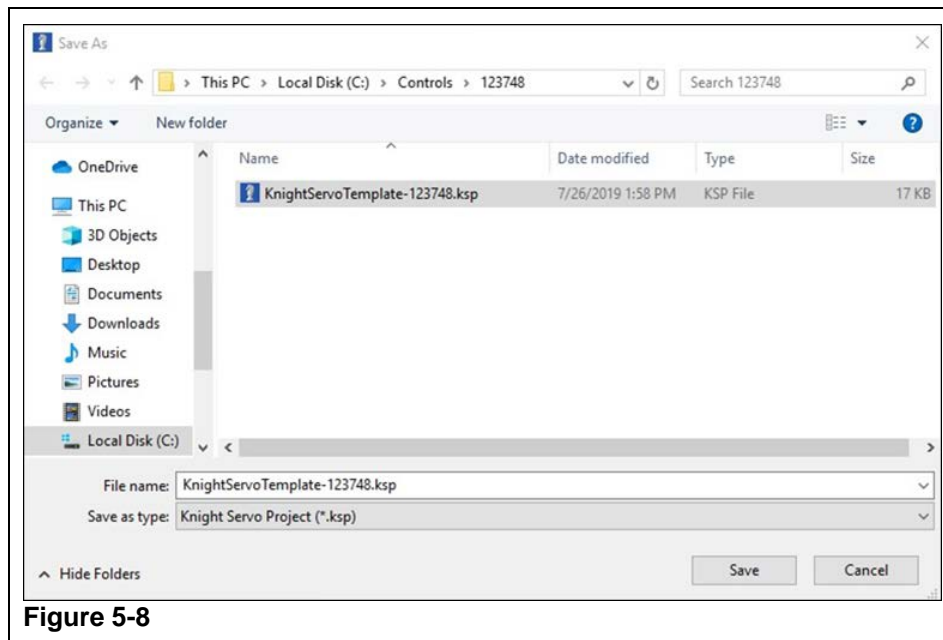

Figure 5-8
- Step 2. Select a folder where to save the backup copy of the file. Ensure the Knight Work Order number is included in the filename. (Refer to Figure 5-8)